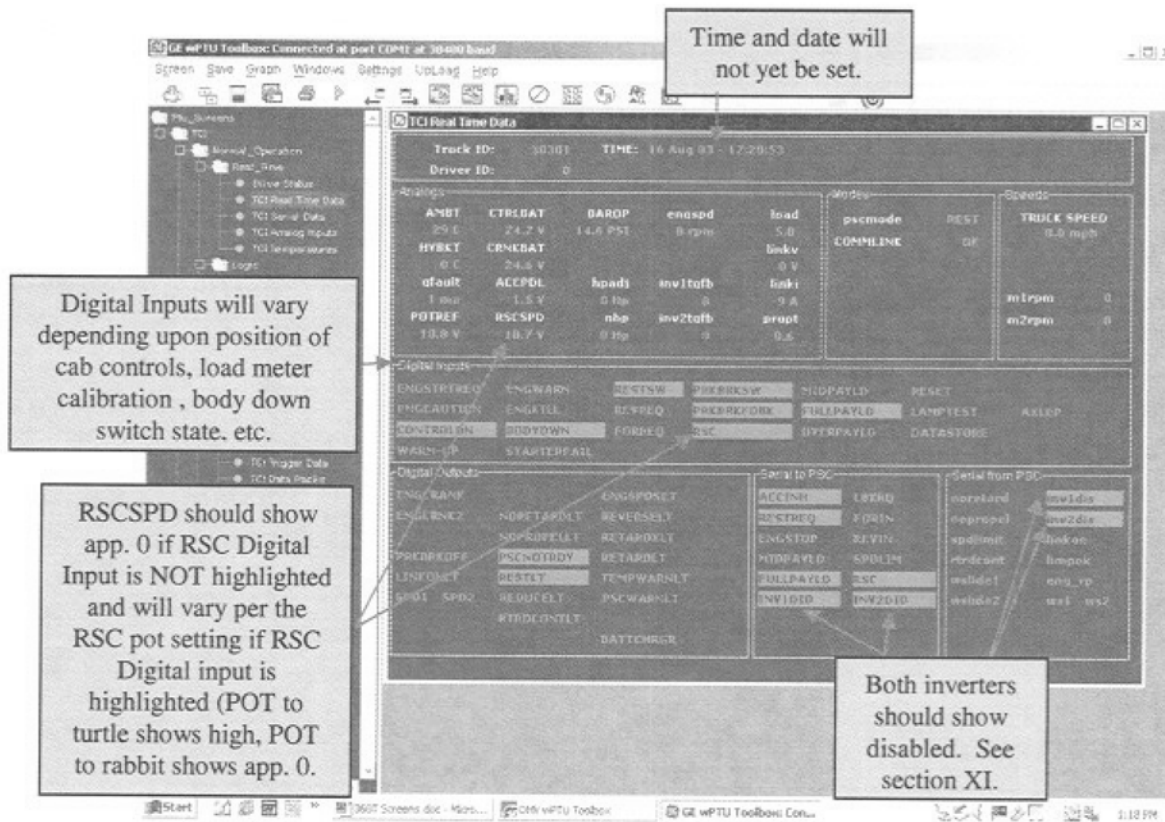

FIGURE 3-7. TCI REAL TIME DATA SCREEN
- Verify that the analog values are similar to the example in Figure 3-7. Also, make sure that the "COMMLINK" signal under "Modes" reads OK.
- ◆ The "TCI Manual Test" screen looks similar to the "TCI Real Time Data" screen in Figure 3-7. Clicking the buttons in the "Digital Outputs" field will toggle the output on and off. See Table V.